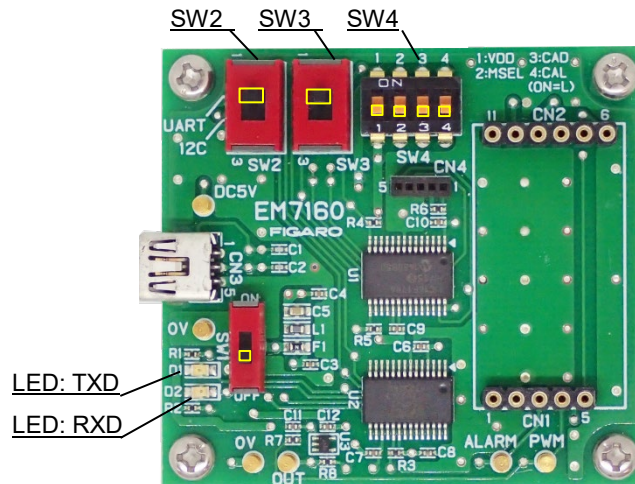

Figure 3 - UART Communication Setting
- SW2, SW3: Set to UART position (upper position as seen in Figure 3)
- SW4-1, SW4-2, SW4-3, SW4-4: Set to OFF position (lower position as seen in Figure 3).